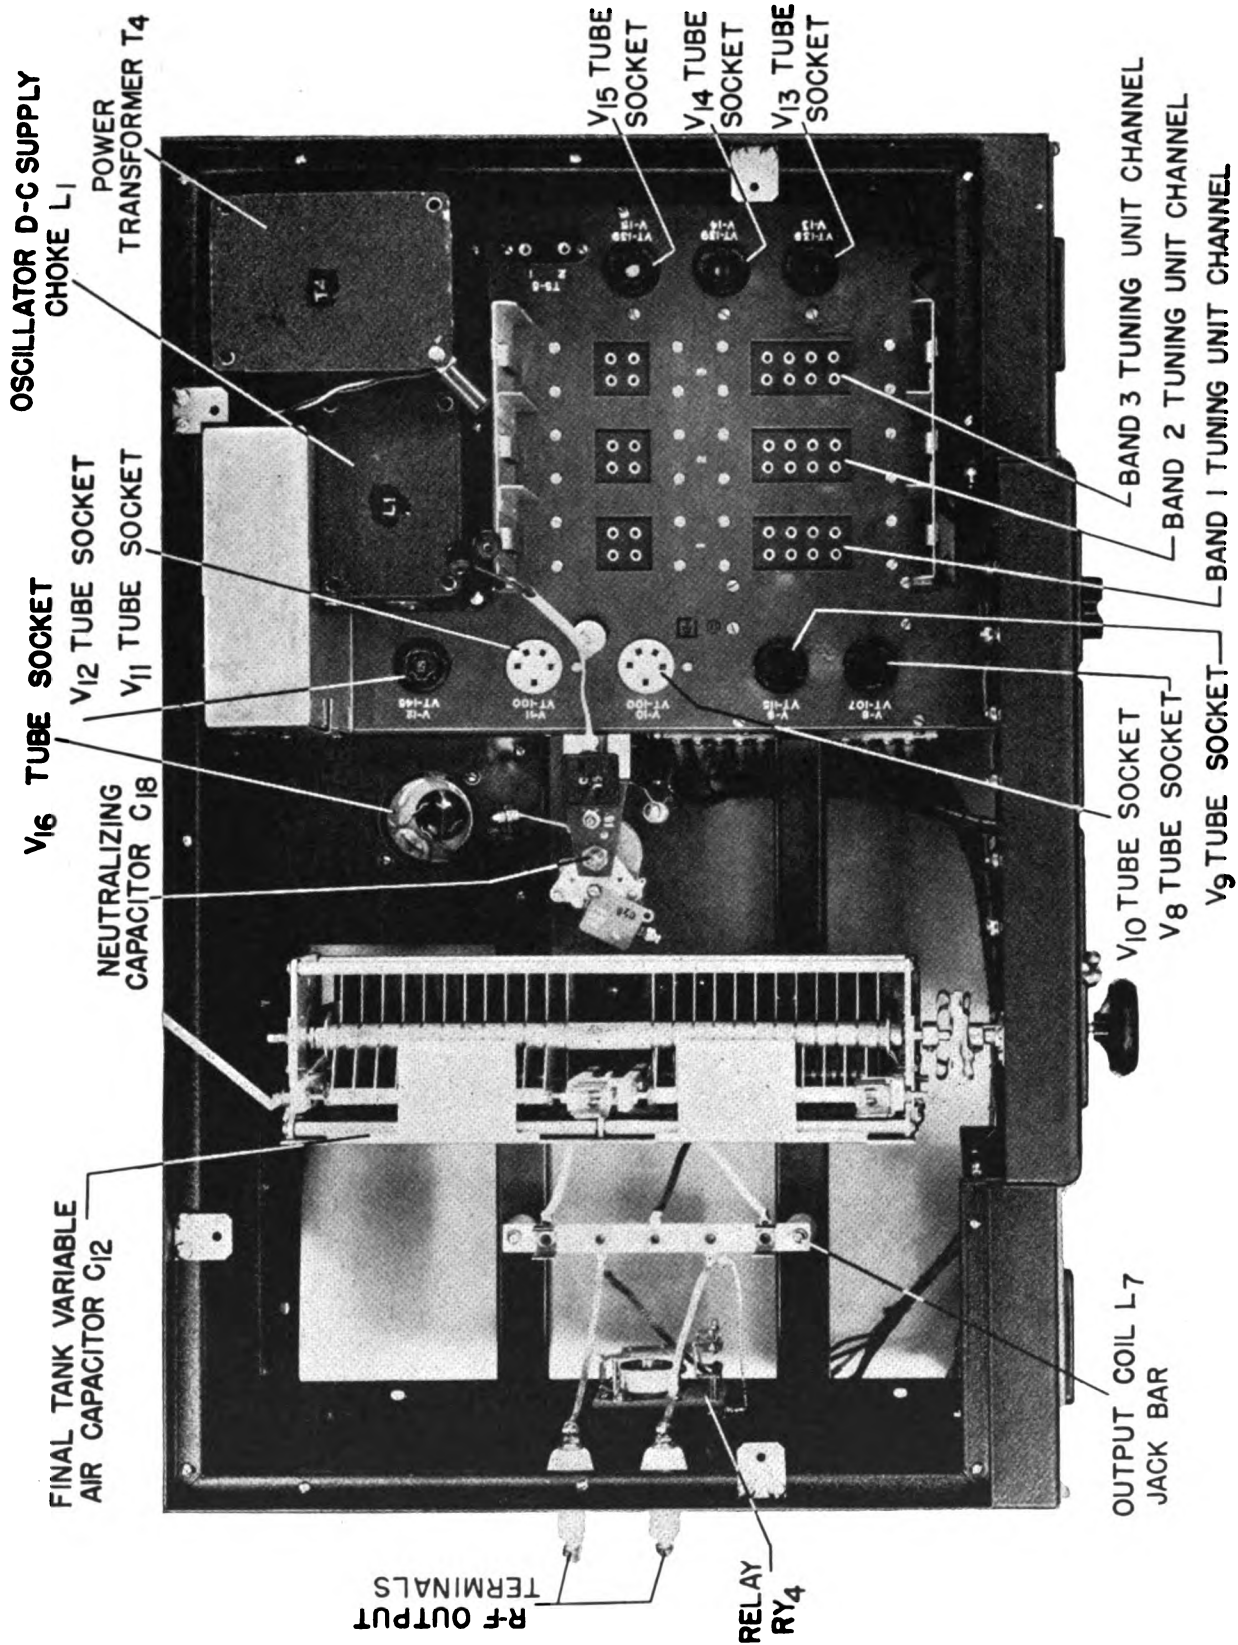
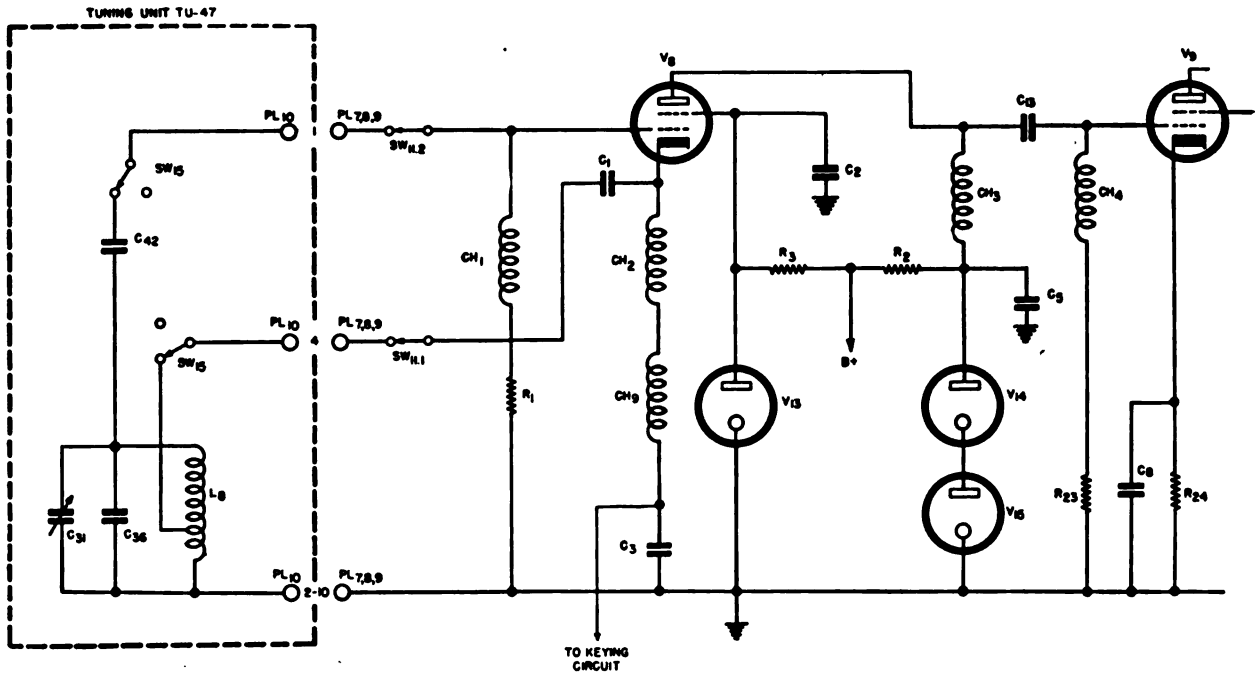

FIGURE 28. RADIO TRANSMITTER BC-610-(*), R-F SECTION, TOP VIEW, LESS TUBES, TUNING UNITS, COIL UNIT, AND VACUUM CAPACITOR.
FIGURE 37. FUNCTIONAL DIAGRAM OF OSCILLATOR CIRCUITS.
- (2) The center chassis contains all of the audio and modulator sections which are not included as part of Speech Amplifier BC-614-(*). Also included on this chassis are power supplies for the bias and audio driver circuits as well as the plate transformer for the exciter plate voltage rectifier.
- (3) The lower chassis includes the complete high-voltage power supply together with its overload relay. This chassis serves as the base for the entire transmitter and is bolted down by large wing bolts to the shock mounting cradle which holds the transmitter to the floor of the truck.
- (4) The lower section of the front panel includes control switches for handling power application, the CW-PHONE switch, a reset switch for the overload relay and controls for setting the filament voltage and the modulator bias. (Radio Transmitter BC-610-D has all its fuses located on this panel in addition to the controls mentioned.)
- (5) To reach the two lower sections remove the rear plate of the transmitter. To reach the top of the r-f section remove the entire top cover. This is easily removed by loosening the four wing bolts.
- b. Radio Frequency Section.** — Electrically, the radio frequency section of the transmitter consists of oscillator tube V_8 , doubler or buffer tube V_9 , intermediate amplifier tubes V_{10} and V_{11} , and power amplifier tube V_{16} together with their associated tuning circuits. (See figures 28 and 29.)
- (1) Oscillator tube V_8 is a Tube VT-107 (commercial type 6V6) whose function is to generate an alternating current at a radio frequency, and hold the frequency of this alternating current constant.
- (c) As an alternative to the adjustable master oscillator, crystal control of the frequency may be had by plugging a crystal into the jacks provided. The crystal is connected across the grid to cathode circuit of tube V_8 and then becomes the frequency determining element. To maintain a high impedance between cathode and ground of tube V_8 , a capacitor and a coil in series are inserted into the circuit. This can be seen in figures 37 and 53, with switch SW_{15} at XTAL.
- (2) Doubler or buffer tube V_9 is a Tube VT-115 (commercial type 6L6).